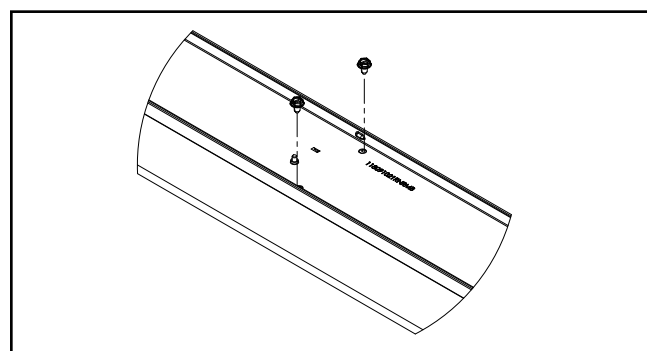

Figure 4.
5. Remove the louver screws from the top of the channel cover. There are 2 screws on a two-foot fixture, and 6 screws on a 4-foot fixture (Figure 4).